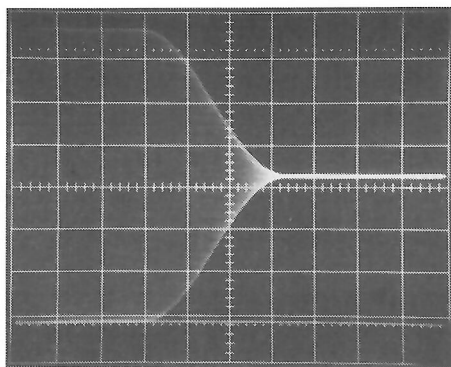

Fig. 17-5 L3 correctly adjusted
- Select "FULL-FIELD" mode, line 331 (D)/NTC-7 COMB.
- Adjust L3 for best pulse response as shown on fig. 17-5 (G-version) and 17-7 (M-version).